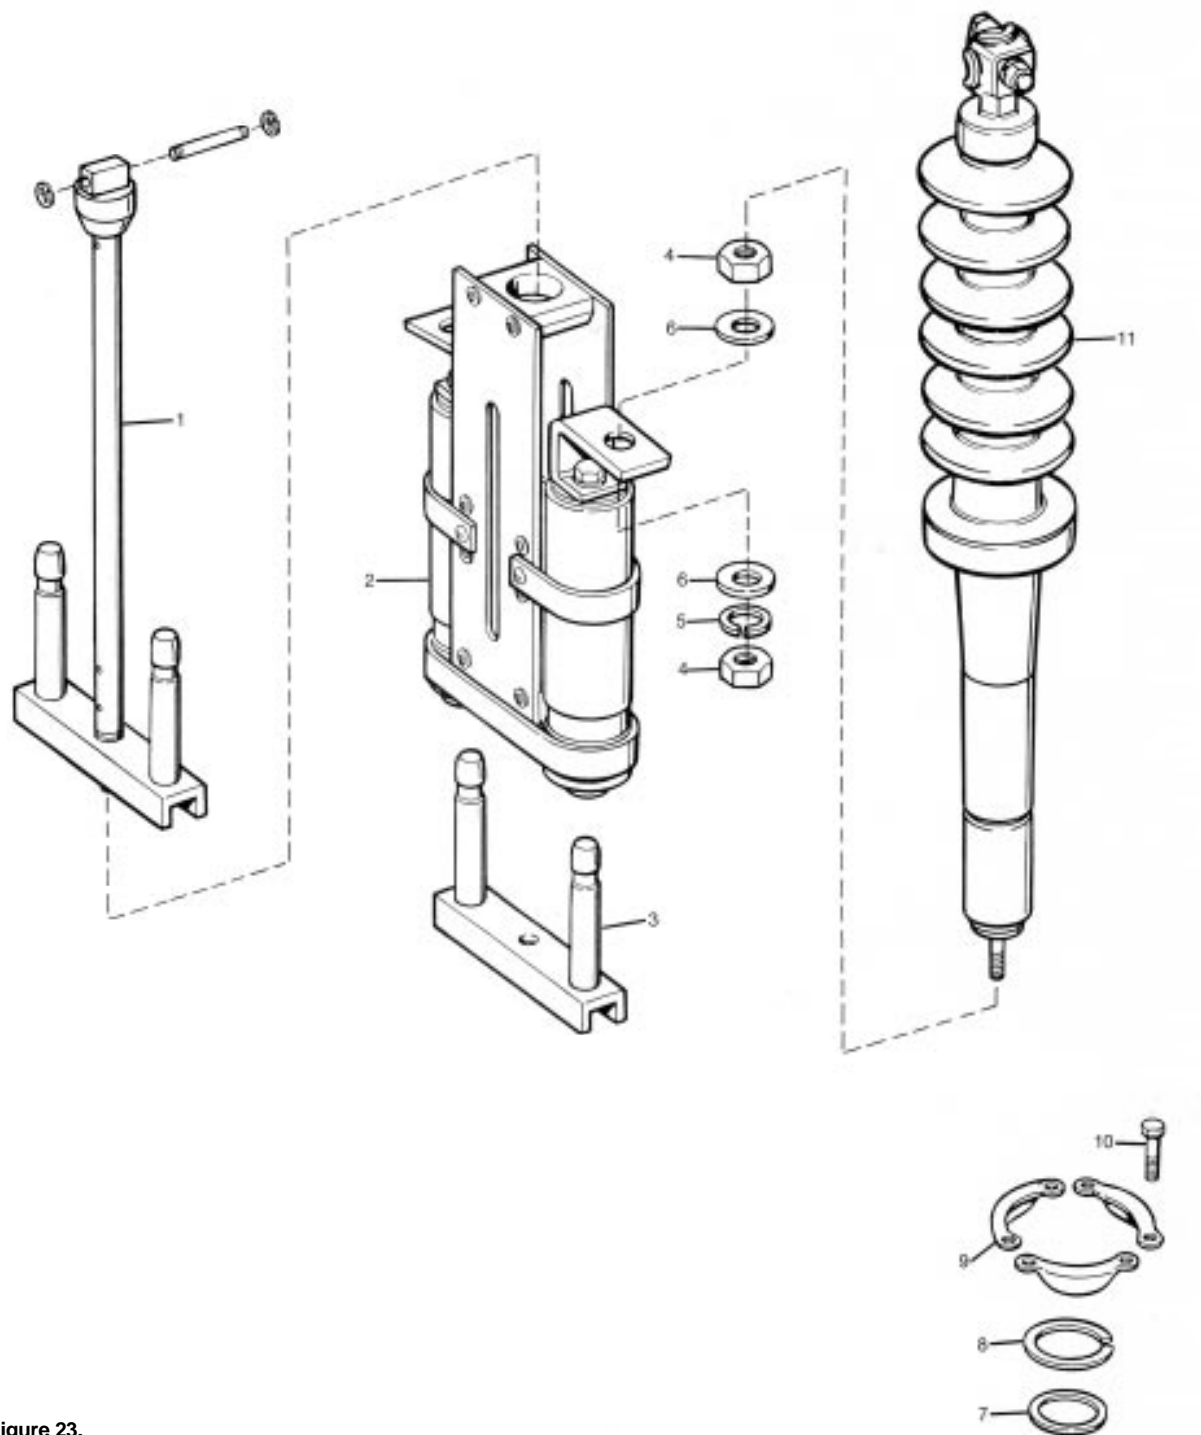

Figure 23.
**Bushings and Contacts (Figure 23)**